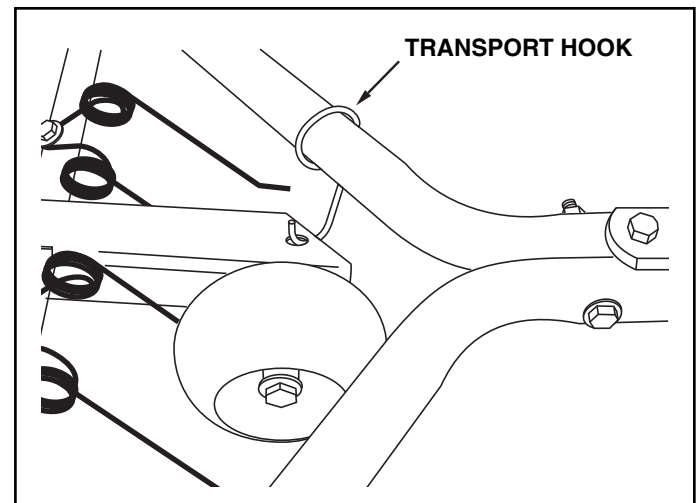

FIGURE 6
- Lift the front of the dethatcher and secure it in transport position using the transport hook. See figure 6.